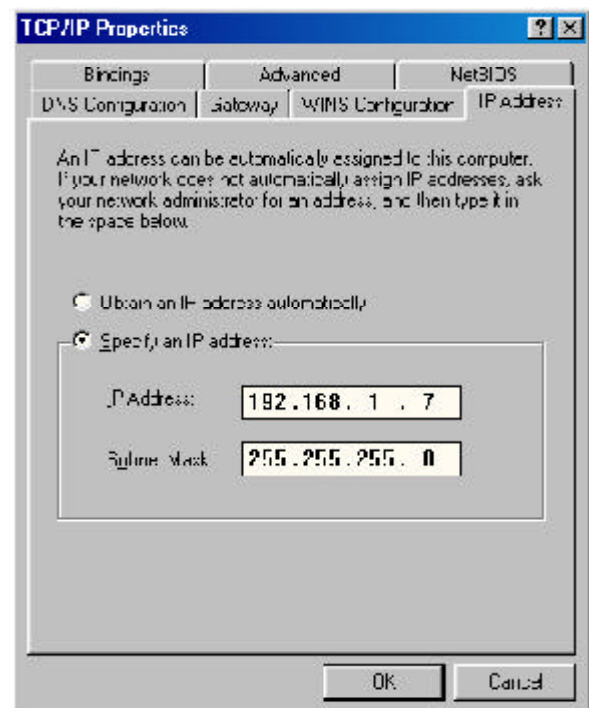

Fig. 2.4
Step 5 Enter **255.255.255.0** for the **Subnet mask**. See Fig. 2.4